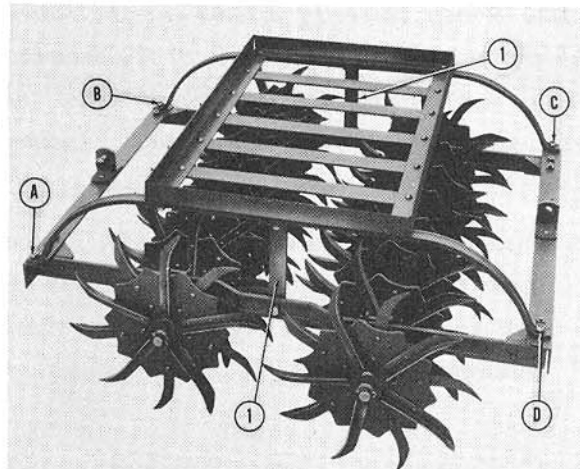

Figure 7
4. Set the weight box and support assembly on the gang frame assembly and bolt in place. See Figure 7. Use only the four holes (A), (B), (C) and (D) at the extreme corners of the gang frame.
5. Bolt weight box support brace (1), Figure 7, to the gang frame.